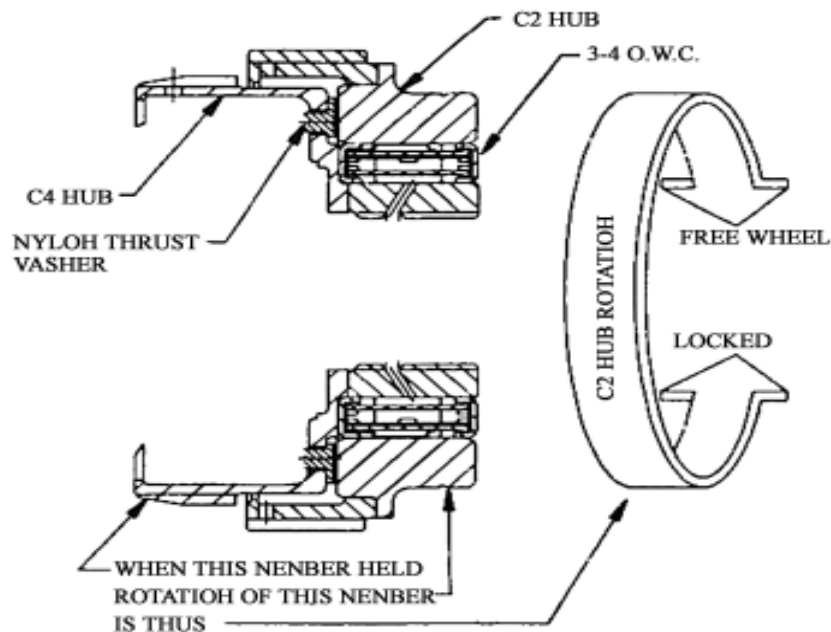

Figure 8.27 C2 hub rotation
- s. Use the gear selection plate to reach the correct specification. It should remove the clutch assembly and immerse the friction disk in the automatic transmission fluid for 5 minutes at least before the installation if install the new friction disks. Lubricate and install the 3-4 one-way clutch and install the sleeve on the C2 wheel axle. Adjust the handle rear and install the nylon thrust washer on the C4 wheel axle. Refer to Figure 8.27.
- t. Adjust and install the clutch C4 wheel axle on the clutch C2 and one-way clutch assembly. Check the rotary direction of clutch C2 wheel axle, when keep the C4 wheel axle in static, C2 wheel axle should rotate in clockwise and is locked in anticlockwise. Refer to Figure 8.27.